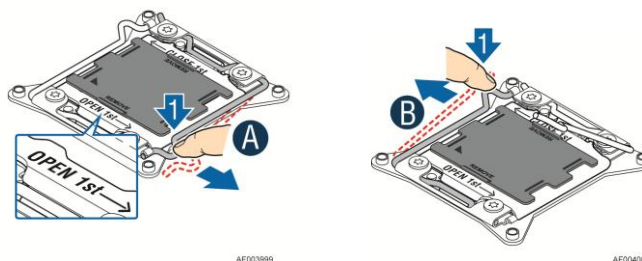

Figure 31. Installing Processor – Open the Socket Lever
2. Open the socket lever, see Figure 31.